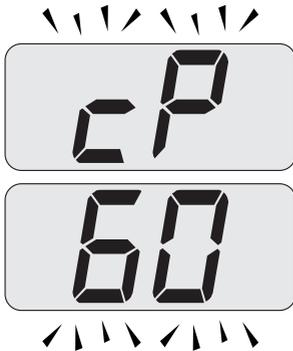

Fig. 10.20
- Press key 14 to vary the output in chimney sweep mode: when the LCD display displays the letters **cP** that alternate with the heating water temperature value (e.g. **60**), the "flue sweep function" is at maximum (eventually range rated) output in heating mode (Fig. 10.20).